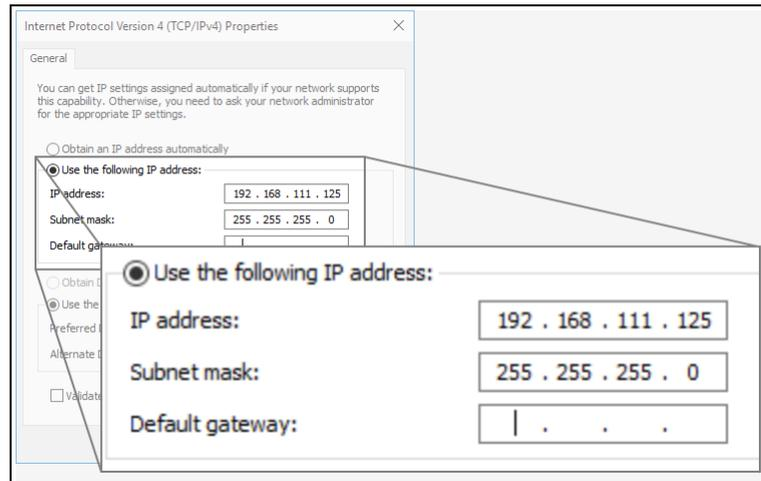

Figure 35: Changed Internet Protocol Version 4 (TCP/IPv4) Properties dialog box
11. In the **IP Address** text box, enter an IP Address that is **in the same subnet range but a DIFFERENT IP Address** than the Z9-P or Z9-PE or all other units in the network. Figure 35